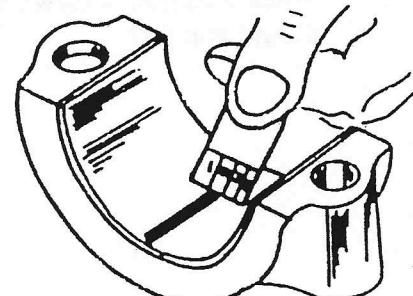

FIGURE 2
5. Compare the width of the flattened Plastigage at its WIDEST point with the graduations on the envelope. (Figure 2.) Within the graduation on the envelope indicates the bearing clearance in thousandths of an inch or in millimeters depending on which side of the envelope is used. TAPER is indicated when one end of the flattened Plastigage is wider than the other end of the flattened Plastigage. The difference between the readings is the approximate amount of taper.